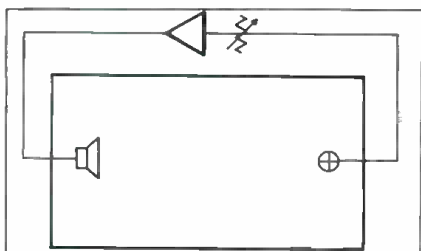

Figure 1. The electroacoustical feedback loop in a sound reinforcement system.
• In most sound reinforcement systems, the microphone is located in the same spot that contains both audience and loudspeakers. As we all know, the gain of the complex loop shown in FIGURE 1 cannot simply be increased electrically without penalty. When the signal in the loop is amplified to a point at which the loudspeaker produces a level at the microphone equal to that of the talker, the system will "ring," or go into feedback. Actually, we cannot operate the system within about 6 dB of the ringing point if the system is to sound natural with speech input.
Fortunately, there are other system variables that can be manipulated to maximize the effectiveness of the reinforcement system. Even though we fix the electrical gain around the loop shown in FIGURE 1, the acoustical gain of the system need not be fixed. It is dependent on the distance from talker to microphone and, once we have fixed the coverage requirements of the loudspeaker array, this distance becomes our most important variable.